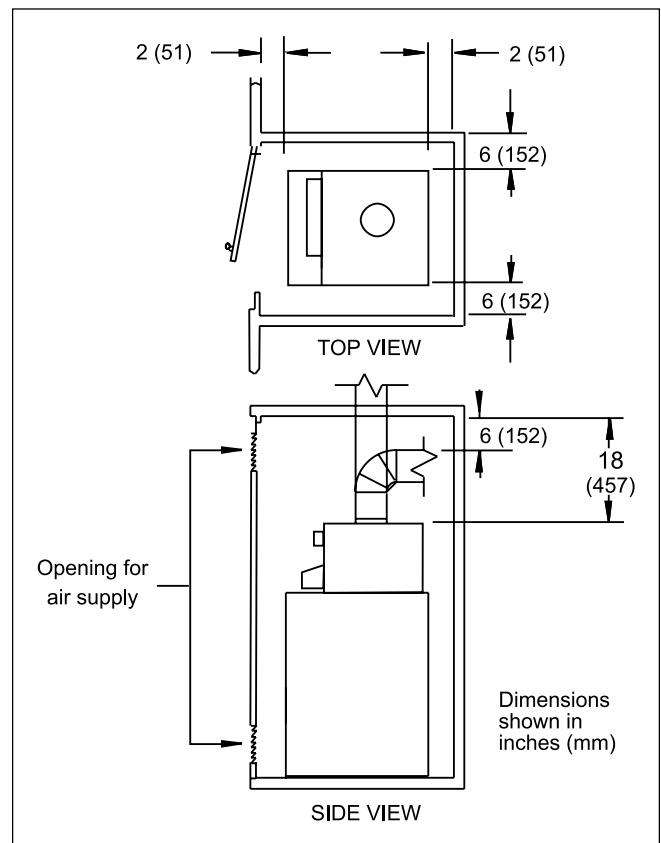

Figure 4. Installation in Closet.
- For minimum clearances around the water heater, refer to Table 2. Maintain the minimum distances from all combustible surfaces (see Figure 4). The unit can be installed in a closet. Pay special attention to the air supply opening to the closet.